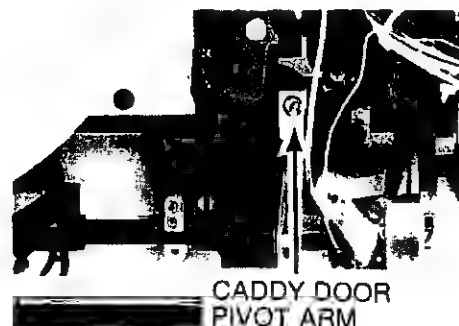

Fig. 3-3. Caddy Door Actuating Pivot Arm
2. Loosen 1/4" hex head screw in caddy door actuating pivot arm (item 14) Figs. 3-3 & 2-13
3. Position pivot arm so that caddy door (item 51) just clears caddy entry. Tighten 1/4" hex head screw.
4. Place Function lever in "PLAY" position. Check that caddy entry door (item 51) blocks caddy entry.